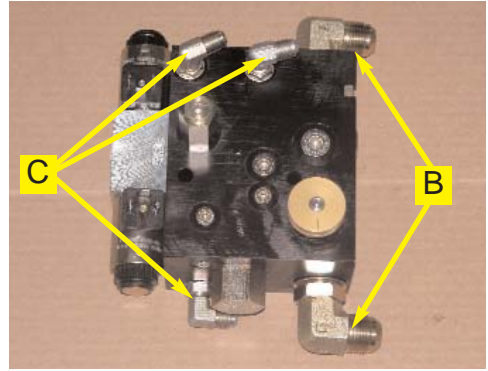

Figure 1. Prepared automated steering block.
- b. Install the small elbow adapter fittings (C) into the T, A and B ports of the automated steering block. (Figure 1.)
- c. Install the larger elbow adapter fittings (B) into the P and EF ports. (Figure 1.)